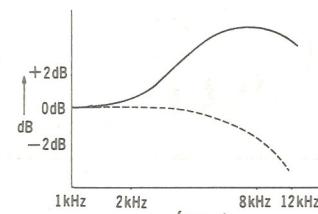

Fig. 35
<p>9. Make sure that the measured value is within the range specified in the overall frequency response chart (Shown in fig. 33). 10. Change test tape to Fe-Cr (QZZCRY), CrO₂ (QZZCRX) and metal (QZZCRZ). 11. Set the tape selector to each position. 12. Measure in the same manner from step (3) to step (8). 13. Make sure that the measured value is within the range specified in the overall frequency response chart for Fe-Cr, CrO₂ and metal tape (Shown in fig. 34).</p> <p>Adjustment—Using bias current</p> <ol style="list-style-type: none"> When the frequency response between the middle and high frequency range becomes higher than the standard value, as shown by the solid line in fig. 35, increase, refer to bias current adjustment. When it becomes lower, as shown by dotted line, refer to bias current adjustment. <p>Note: For the method of bias current measurement, refer to "Bias current adjustment" on page 8.</p>